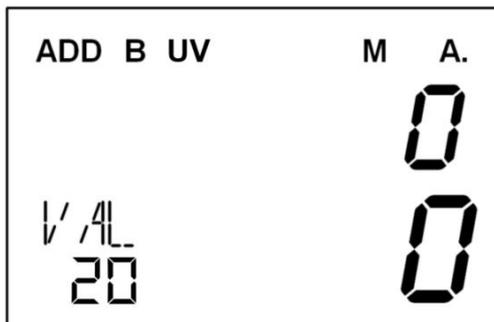

Figure 33
3) When you have finished inputting, press "START/ENTER" to save, the machine will automatically return to the main interface and display the customized value, as shown in Figure 33 below. At this point, you can count the currency with a face value of 20.